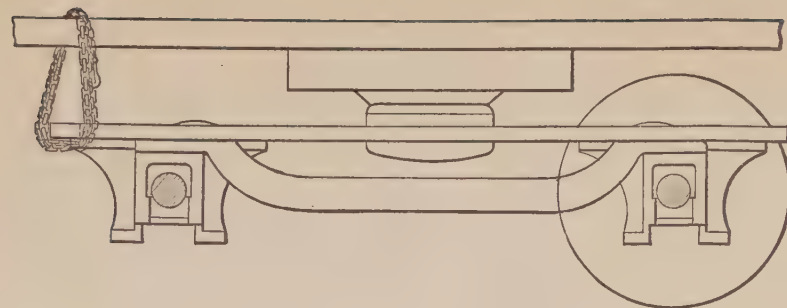

Fig. 204. Broken Truck-wheel.
A. Relieve it of some of its weight by a wedge, and blocking between the spring-saddle and the frame. See figure 204.
A. See page 338; also figure 204.